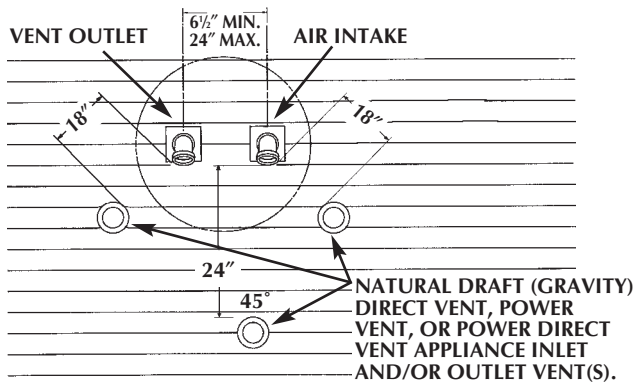

Figure 4
- 18" minimum from other natural draft (gravity) direct vent, power vent or power direct vent appliance inlet and/or outlet vent(s) when directly above or 135° to either side of center line. Figure 4, page 9.
- 24" minimum from any appliance inlet and/or outlet vents when directly below or 45° to either side of center line. Figure 4, page 9.